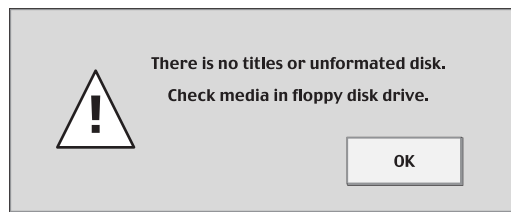

Figure 8
- 1 Insert a preformatted DOS floppy disk into the DMX-R100 disk drive and press the FLOPPY DISK touchscreen button in the Title Manager Window. If the disk has been correctly formatted, the DOS button will light green. If it is not correctly formatted, the following dialog will appear. (See Figure 8)